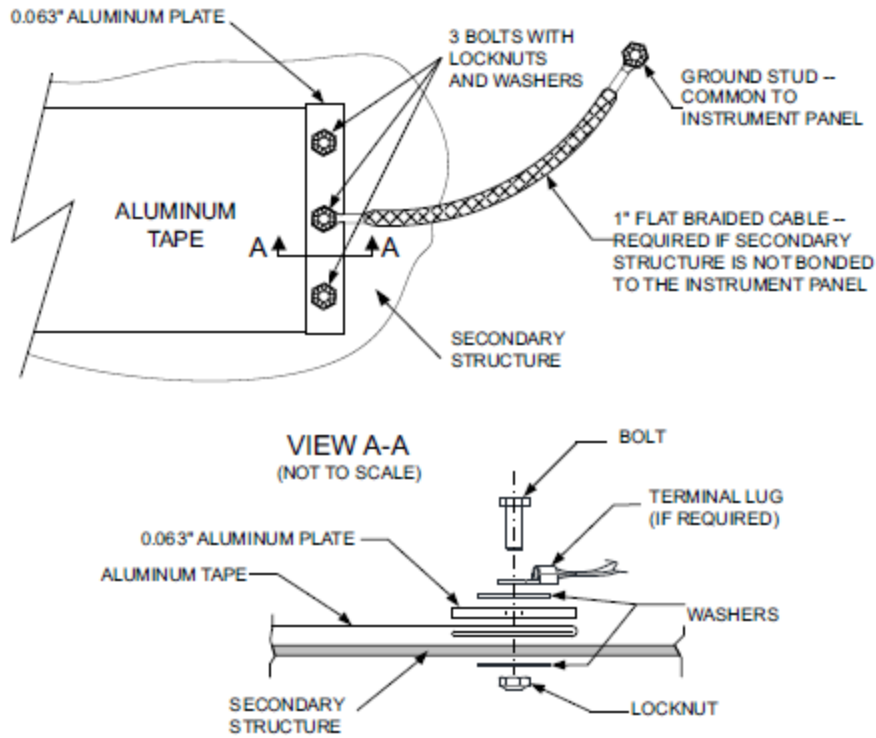

Figure 4-51 Aluminum Tape Ground Termination
8. Fold the end of the tape over twice for added thickness at the prepared grounding location. Refer to Figure 4-51. Apply 3” wide tape over the seam as shown.
11. If a bonding strap will be used to reach the grounding location, secure the end of the tape to the secondary composite surface as shown in Figure 4-51. Note that the procedure for installing mounting bolts applies only to secondary aircraft structures, not to primary structure or structural load-carrying members. The tape shall meet 5:1 length to width ratio if a bonding strap is used. The bonding strap shall be one inch wide and no longer than five inches. Refer to Figure 4-51.
14. Secure the end of the tape in place using a 0.063” piece of aluminum using three bolts and nuts. Refer to Figure 4-51.